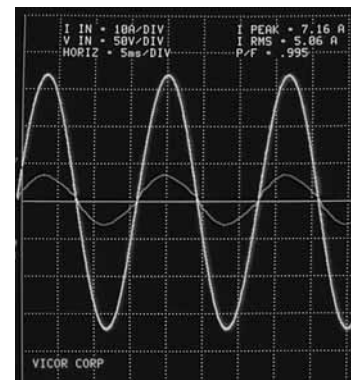

Figure 2b – With PFC
- Figure 2b – With power factor correction